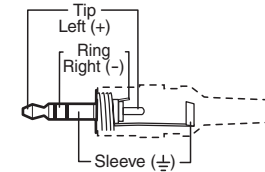
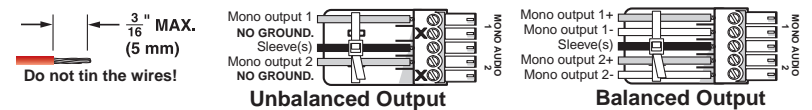

Figure 8 — 3.5 mm stereo audio plug
Figure 10 — Captive screw audio connector wiring
- 4 **Audio input connector** — Plug a 3.5 mm stereo audio plug into this jack for unbalanced audio input. Wire the plug as shown in figure 8.
NOTE Figure 8 shows a typical audio connector, which consists of a tip, ring, and sleeve. The ring, tip, and sleeve wires are also shown on the audio output captive screw audio connector diagram, figure 10.
- ⑧ **Output video connector** — Connect a projector or other high resolution video device to this 15-pin HD connector.
- ⑨ **Mono Audio output connector** — Insert a 3.5 mm, 5-pole captive screw audio connector into this connector for two mono audio outputs. Wire the connector as shown in figure 10. Use the supplied tie-wrap to strap the audio cable to the extended tail of the connector.